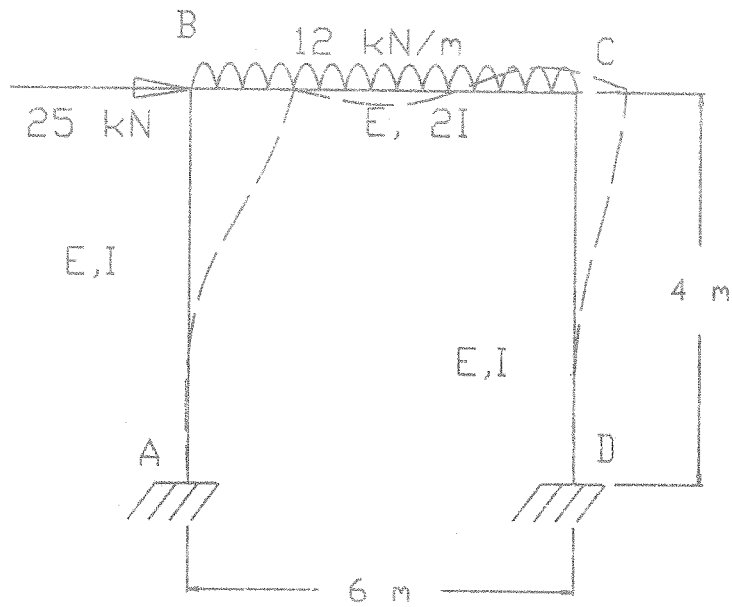

Fig. Q1
- Q1 Fig. Q1 shows a portal frame structure with horizontal and vertical loading. Beam element of the portal frame is having stiffness twice the column element.
- Based on the results of Q1. a) and Q1. b) above and using the principal of superposition, complete the bending moment diagram of the portal frame structure shown in Fig. Q1. [2 Marks]